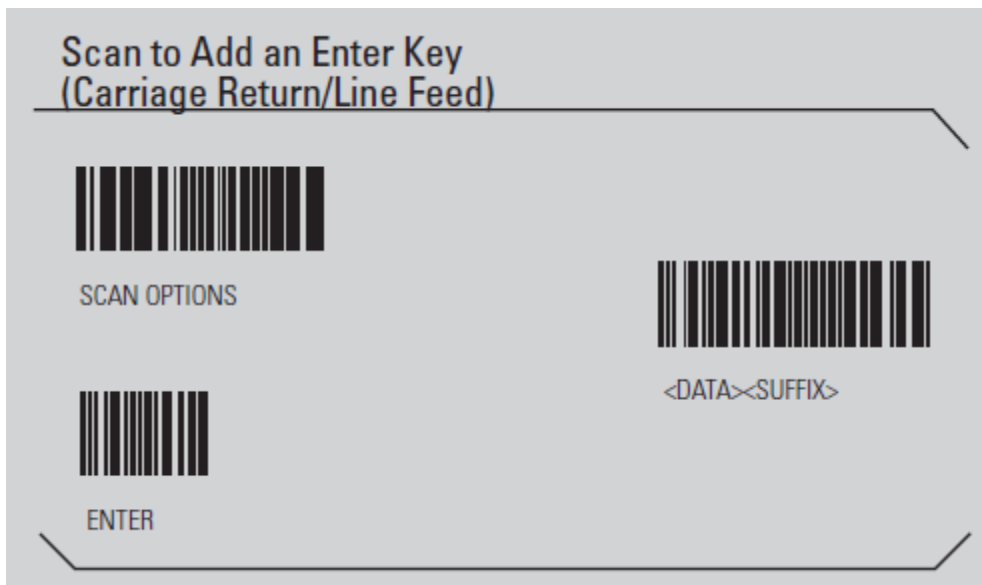

Figure 26: Configuration of the bar code scanner mode
1. Do scans of the three bar codes in Figure 26 in this sequence: